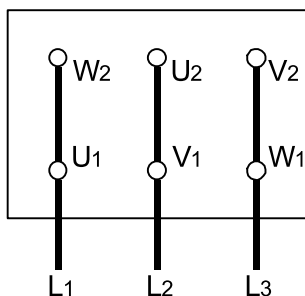

Fig. 7a. Δ - connection
- The mains connection on the tagboard depends on the nominal power of the motor, the power supply and the type of connection. The necessary connection of the bridges in the terminal box is shown in the following (**Table 1. and Fig. 7a, 7b, 7c**).